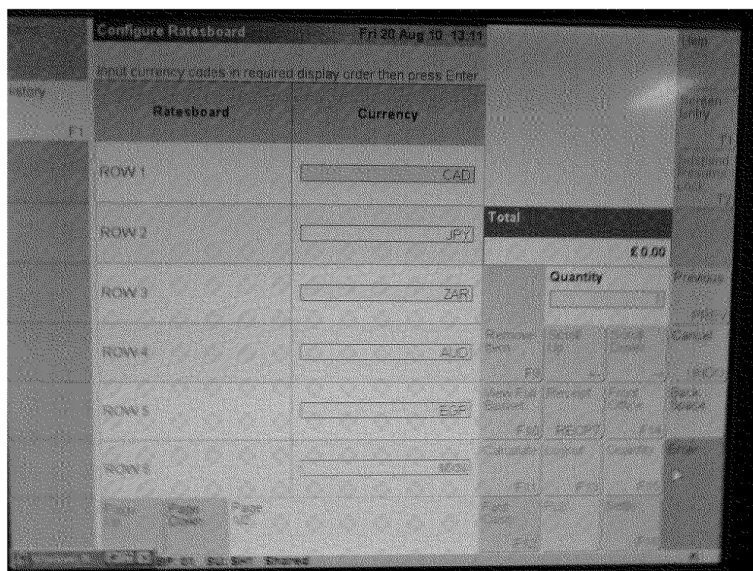

Figure 13
- 4) After making the appropriate selection, the currency selection screen will be displayed, see figure 13:
- 5) The display is not large enough to display all the rates simultaneously. This screen is divided into two and is accessed by “Page Up or Page Down icons. (See figures 13 and 14)